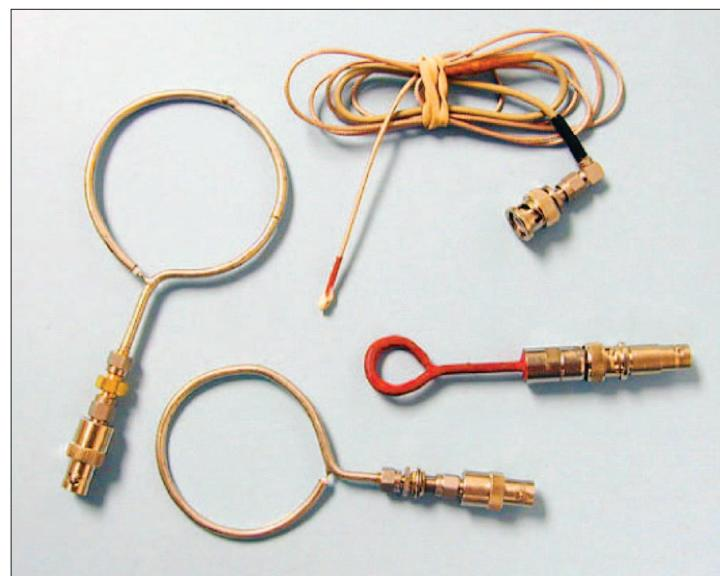

Figure 1 —
used with oscilloscopes. They present a high impedance (typically about $10\text{ M}\Omega$) to the circuit under test to prevent loading it and changing the voltage. The probes in Ken’s article, however, are *E-field probes* and *H-field probes*. Referred to as *near field probes*, they pick up the electric and magnetic field components of electromagnetic (EM) signals, respectively, without directly contacting the circuit at all, and are used with a spectrum analyzer to “sniff” for sources of radiated EMI. A selection of probes made by Ken is shown in Figure 1.